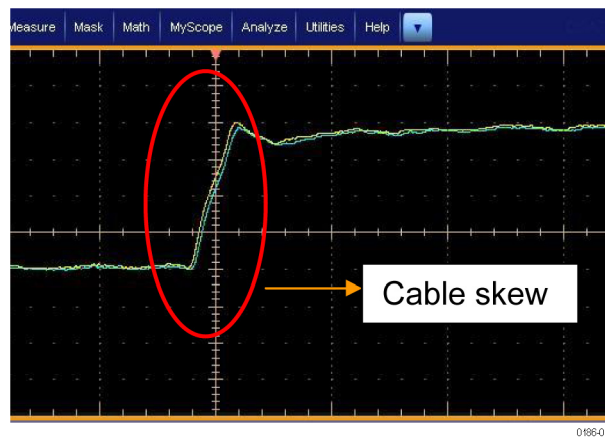

Figure 16: Visible cable skew
15. Adjust the horizontal **Scale** (Lower time/pt) so that the differences in the channel delays are clearly visible. (See Figure 16.)